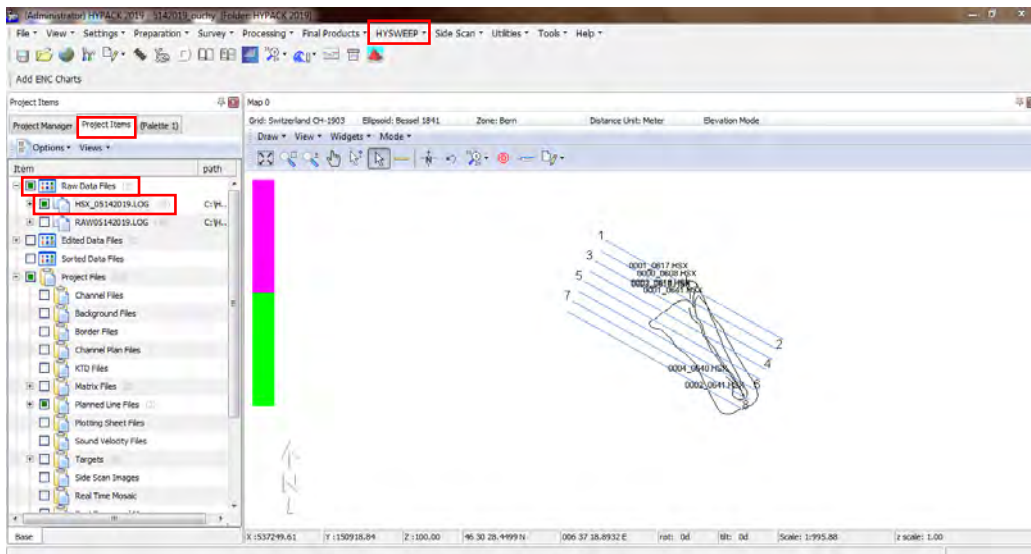

Figure 53: Lines selection in HyPACK
6. On the "Raw Data Files" of the "Project Items" list select the lines/rows (*.HSX format) you want to clean (Figure 53)
- ⇒ HyPACK 2019 main menu -> HySWEEP -> HySWEEP Editor 64bit (Figure 53)